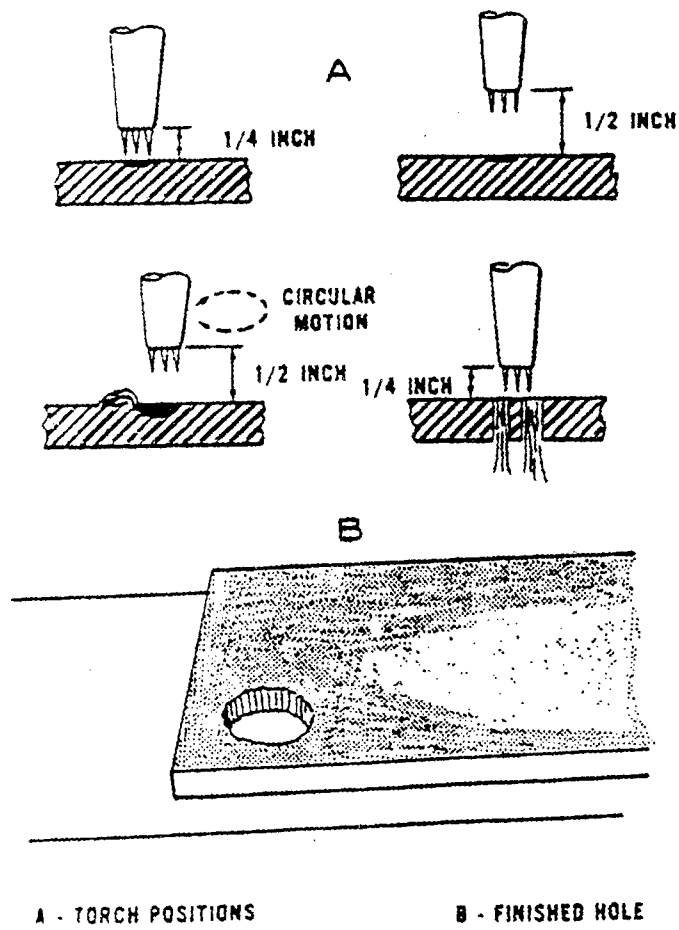

Fig. 3-14 Hole burning
- (1) As soon as the metal is perforated, the torch is again lowered to the normal height above the work and the cut is completed. In piercing holes, do not allow slag to plug the cutting orifice (See **Figure 3-14.**)